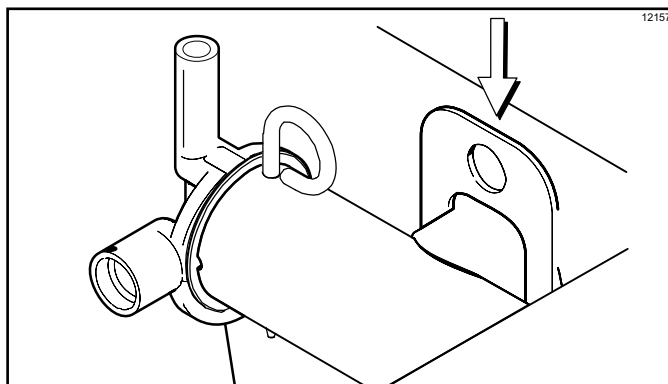

Figure 6-39
4. Install the pump assembly at the rear of the mix hopper. To position the pump on the drive hub, align the drive hole in the piston with the drive crank of the driveshaft. Secure the pump in place by slipping the pump clip over the collar of the pump, making sure the clip fits into the grooves in the collar. (See Figure 6-39.)